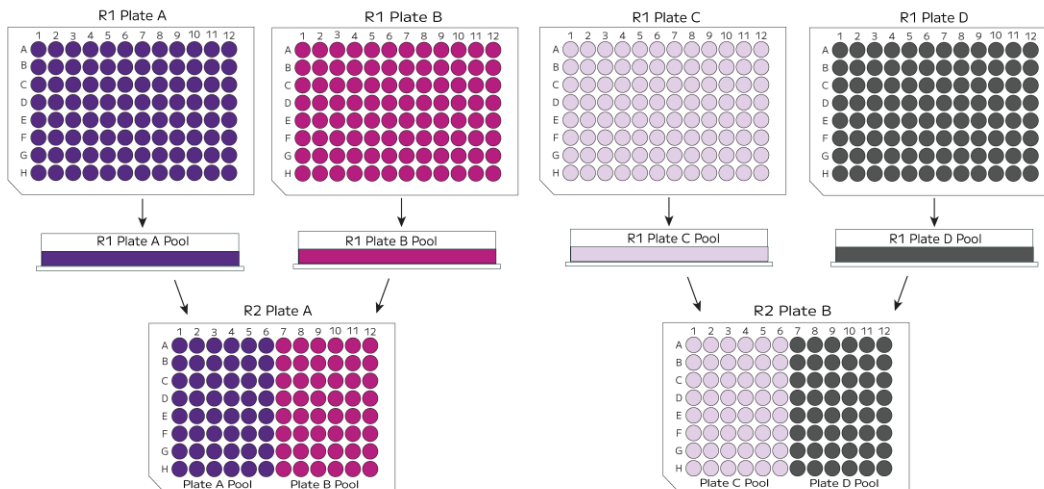

Figure 6: After straining Round 1 Pools into four basins, each Pool is loaded column-wise into six columns each of the Round 2 Plates (A) and B.
6. While secured in a PCR tube rack on a flat surface, remove the plate seal from the Round 2 Plate (A), and apply the provide adhesive labels to assist with loading. We suggest not removing the seal from Round 2 Plate B yet to avoid confusion.
7. With Round 2 Plates on ice, transfer the Ligation Cell Mix to each well in the Round 2 Plate (A) as follows. See figure 6 for an overview.